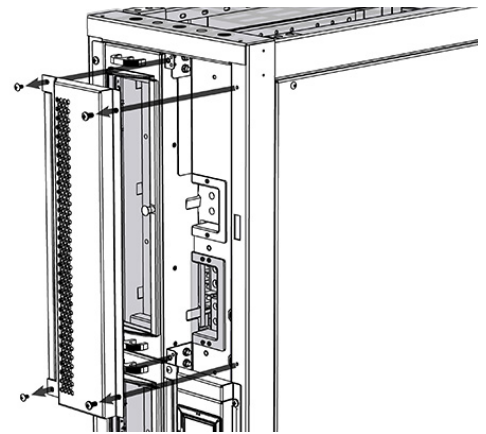

Figure 35. Center Panel
- Step 1. Remove the center panel by loosening the four pan head screws (see Figure 35).